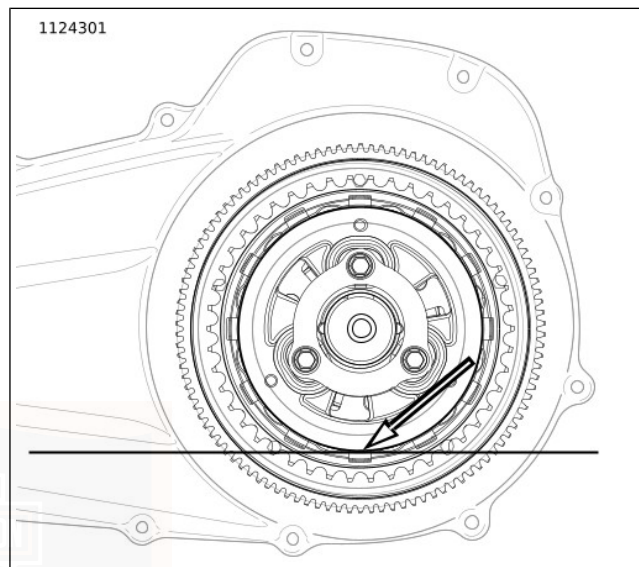

Figure 72. Primary Lubricant Level
- b. See Figure 72. Proper level is approximately at bottom of pressure plate OD.